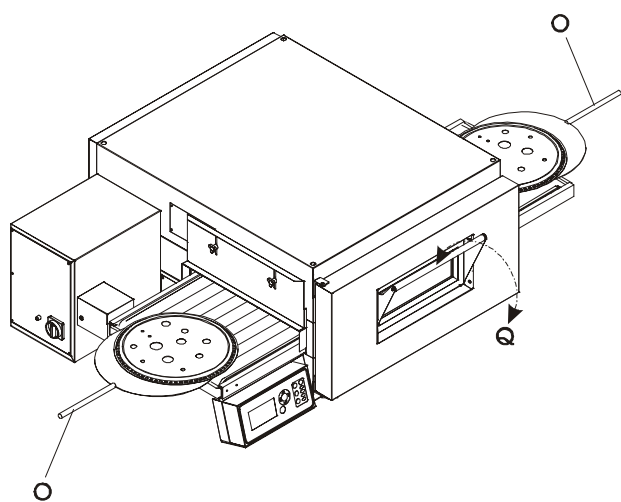

Fig.16
- Remove the belt coupling cover (fig.16 item U) by unfastening the screws that lock it in place (fig.16 item X).
- Insert a new pin (fig.16 item S).